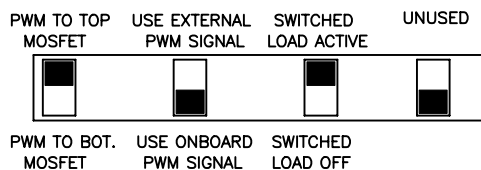

Figure 8.2: Selector Switch Position for Switched Load
- Switch ON the switched load to active position using selector switch bank as shown in Fig. 8.2.
- Switch ON the switched load to the active position using the selector switch bank as shown in Fig. 8.2.